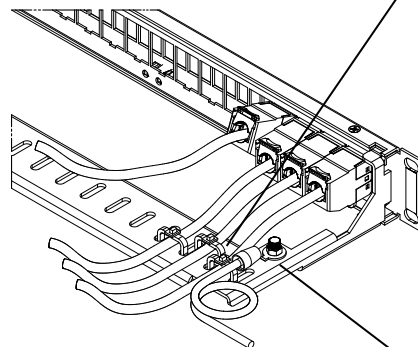

FIG. 2
1. Orient jack to panel (See Fig.1& Fig. 2).
2. Slide jack into patch panel port opening at slight angle (See Fig. 1 and Fig. 2)
1. Secure cables to cable tray with cable ties (See Fig. 1 and Fig. 2)
2. Individually Earth each patch panel to cabinet Earth position when installing C6A jacks (See Fig.2)